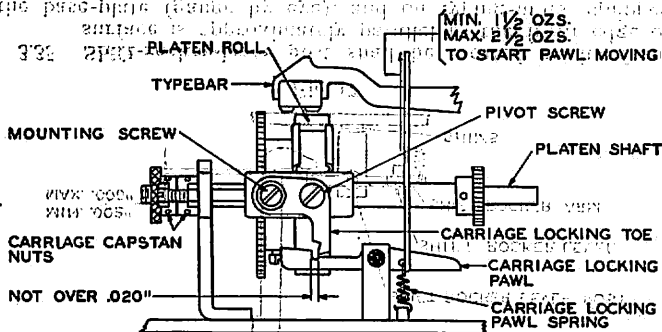

Fig. 16
3.34 **Carriage locking-pawl spring tension** shall be Min. 1-1/2 ozs., Max. 2-1/2 ozs. measured when the carriage is held back far enough to have clearance between the carriage locking-pawl and the carriage locking-toe. **Fig. 16**
3.37 **Carriage travel adjustment.** On units equipped with an adjustable shift-rocker, the carriage locking-toe shall overtravel the locking-pawl notch by not more than .020" when **Ltrs.** combination is set up and the main-bail is in its highest position. (Pull upward on bail to insure this.) Gauge by eye. **Fig. 16**